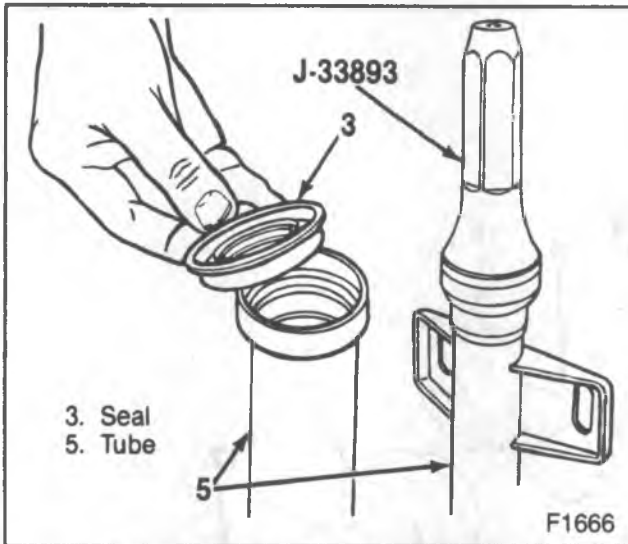

Figure 29—Installing the Shaft Seal
4. Observe the pattern on the ring gear teeth and compare with figure 29.
6. Shaft (59) with deflector (2). Tap into place.
7. Bearing (4). Use J 33844.
8. Seal (3). Use J 33893 (figure 29).
9. Housing (5) to the carrier.